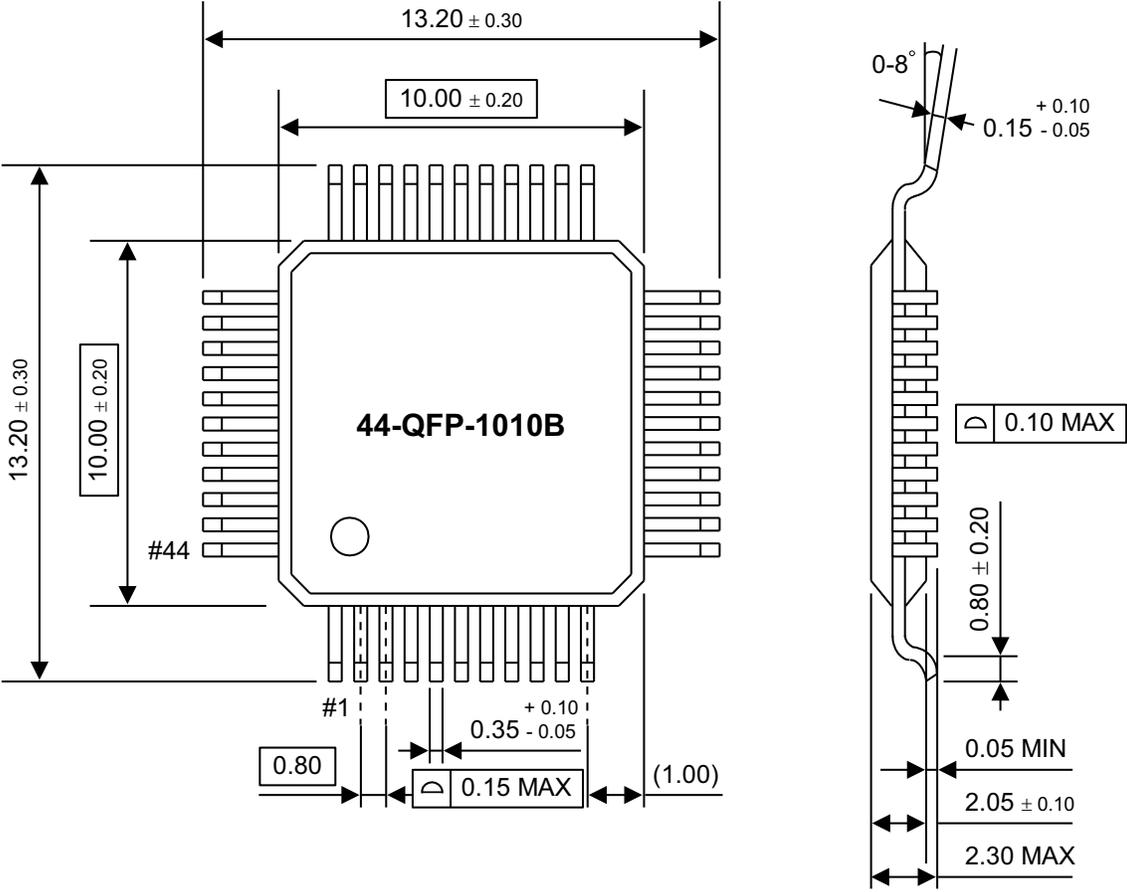

Figure 98. 44-pin QFP Package Dimensions
The S3F80P9 microcontroller is currently available in a 44-pin QFP package, 32-pin SOP, 32-pin QFN, and 28-pin SOP packages shown in Figures 98 through 101, respectively.
► **Note:** In Figure 98, dimensions are in millimeters.